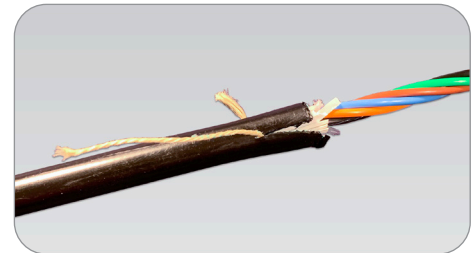

Figure 2
1. All cables must be slit or tabbed with a 1" slit on the two sides of the sheath (Figure 2). This will ease insertion and avoid fiber damage.